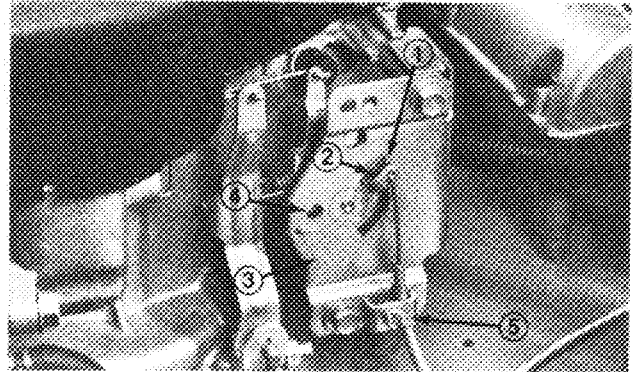

Figure 5
2. Hook wire Z-bend into hole of speed control lever (Fig. 5).
3. Loosen cable clamp screw allowing cable installation, but do not tighten (Fig. 5).